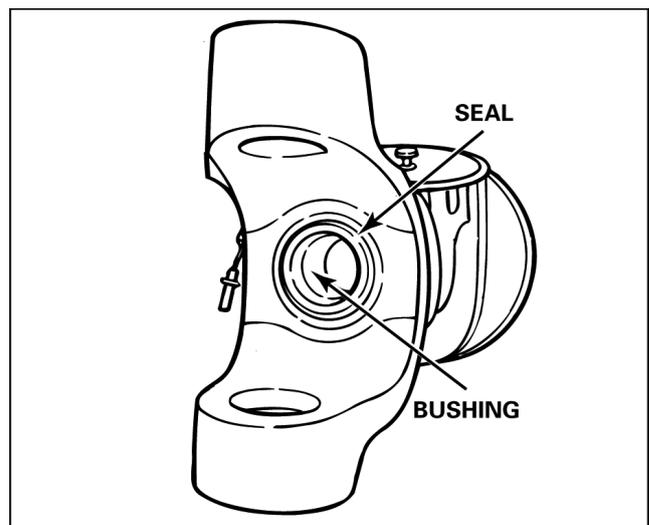

Fig. 4.9
17. If the inner axle bushings are to be removed. If required, use a slide hammer to remove inner axle bushings. Discard the bushings. - Fig. 4.9